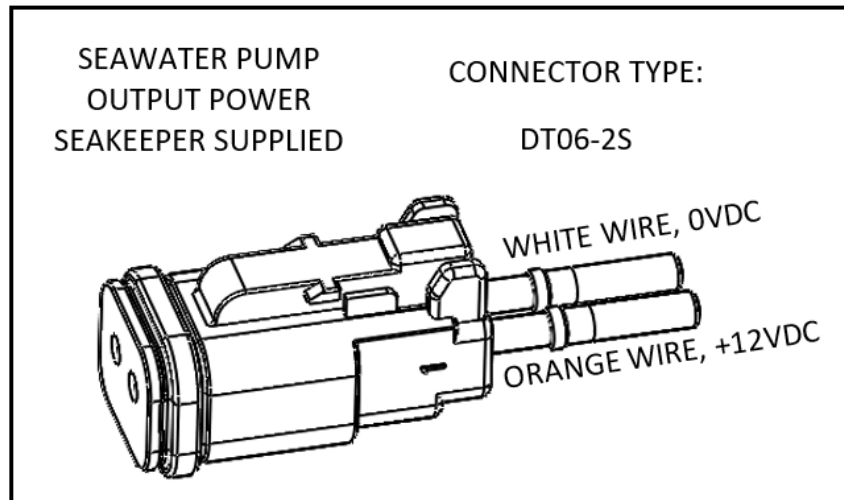
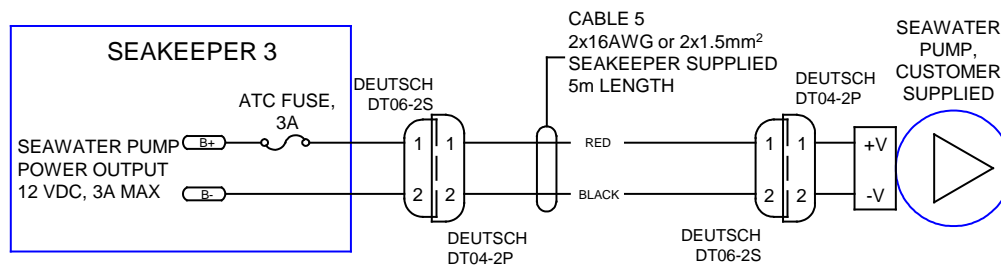
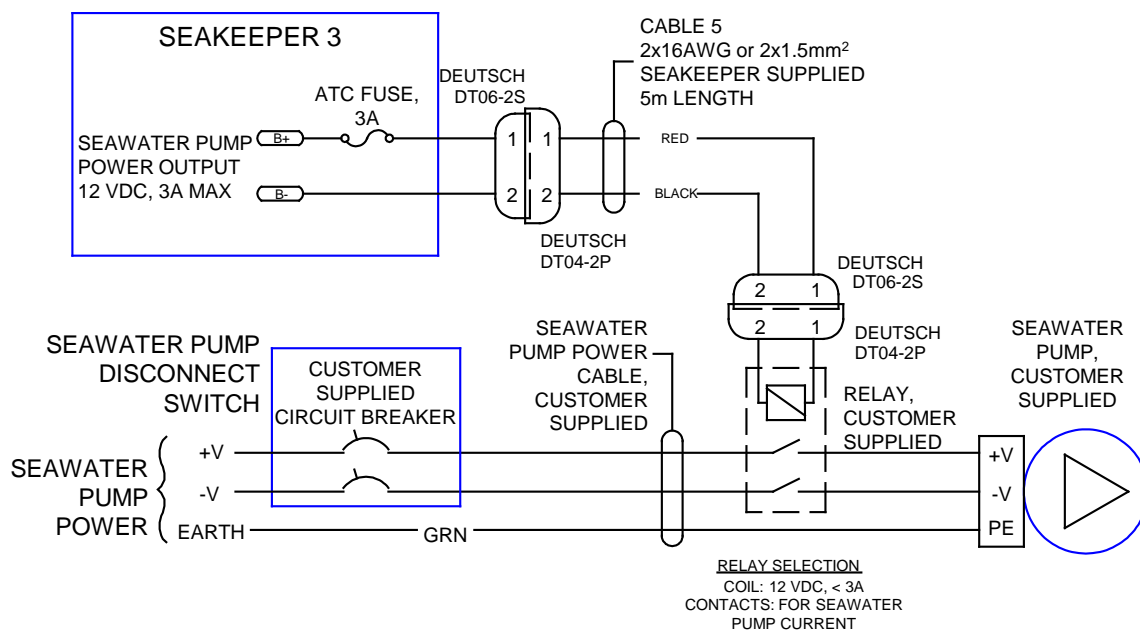

FIGURE 7 – CABLE 5, SEAWATER PUMP DC OUTPUT POWER CABLE END
FIGURE 8 – RECOMMENDED WIRING FOR SEAWATER PUMPS
FIGURE 9 – RECOMMENDED WIRING FOR SEAWATER PUMPS NOT 12 VDC OR NOT 3A MAX
- ii. Pumps rated at 12 VDC, 3 Amps max., Customer-supplied, must be configured with a Deutsch DT series, 2-pin receptacle to mate with the connector shown in Figure 7.
- iii. CABLE 5 must be routed and installed in the vessel from the Seakeeper (male end) to the DC Seawater Pump (female end). (See Figure 7.)
- iv. Connect the 12VDC wires in CABLE 5 to a 3 Amp maximum, Seawater Pump (approximately 36W) according to Figure 7.
- v. The recommended wiring is shown in Figure 8. Refer to Figure 7 for CABLE 5 wire connections.
- iii. The recommended wiring is shown in Figure 9. Refer to Figure 7 for Cable 5 wire connections.